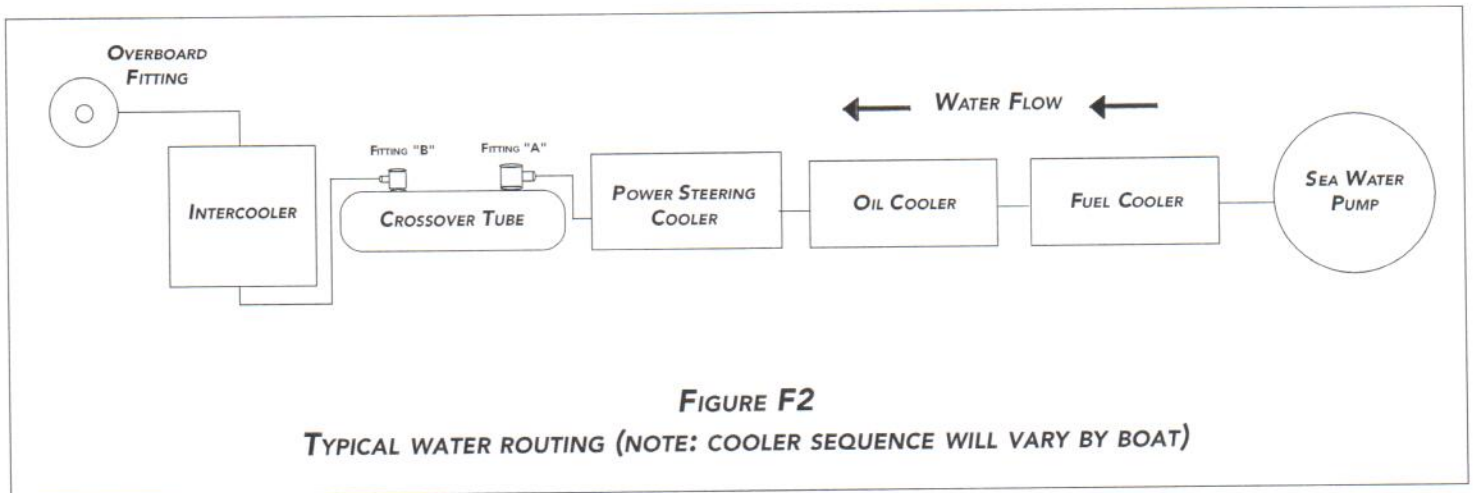

FIGURE F2
7. Install supplied fuel cooler in the 1 1/2" water line directly after seawater pump. Note: the cooler can be mounted in either direction. See figure F2.